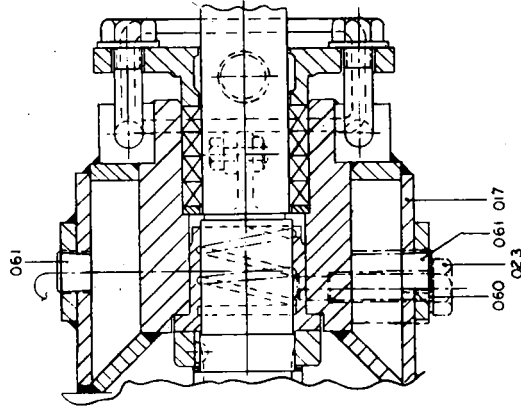

FIGURE 8. VIEW OF PACKING PUMP, FABRICATED PACKING BOX COVER WITH STEAM JACKET
Figure 8 only: Removal of inboard cover (017) includes removal of washer (024), stop pin (023), packing box bushing (018), gasket (060) and plugs (061). Slide washer (024) from inboard cover (017). Remove stop pin (023) and slide packing box bushing (018) from inboard cover (017).